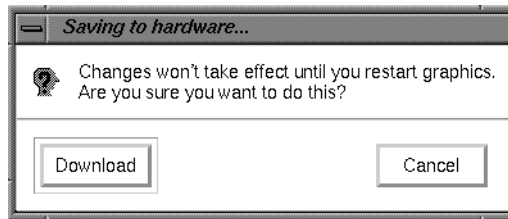

Figure A-8 Saving to Hardware Dialog Box
10. In the "Saving to hardware" dialog box that appears, click *Download* (see Figure A-8).